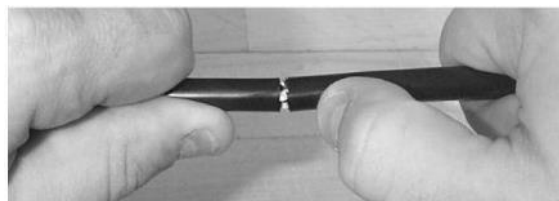

Figure 25 - Flex the cable to separate the sheath
5.11 Gently flex the cable at the score mark to separate the cable sheath (Figure 25). Be careful not to breach the minimum bend diameter.